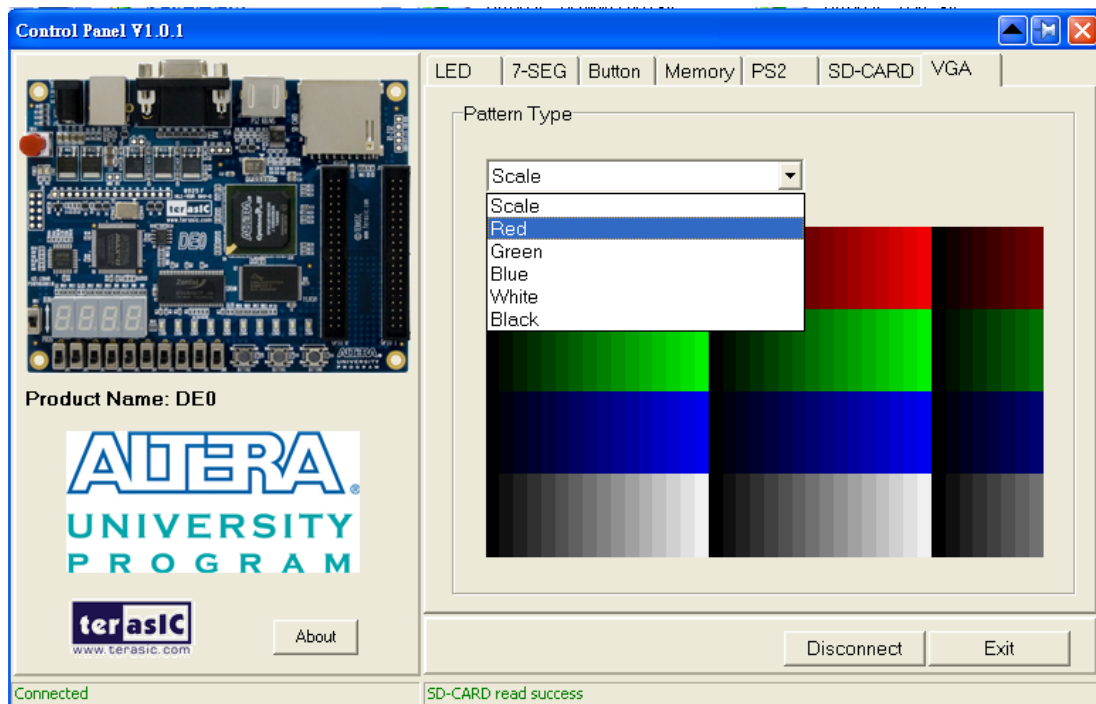

Figure 3-10. Controlling VGA display
1. Choosing the VGA tab leads to the window in Figure 3-10.
4. Click the drop down menu shown in Figure 3-10 where you can output the selected color individually.